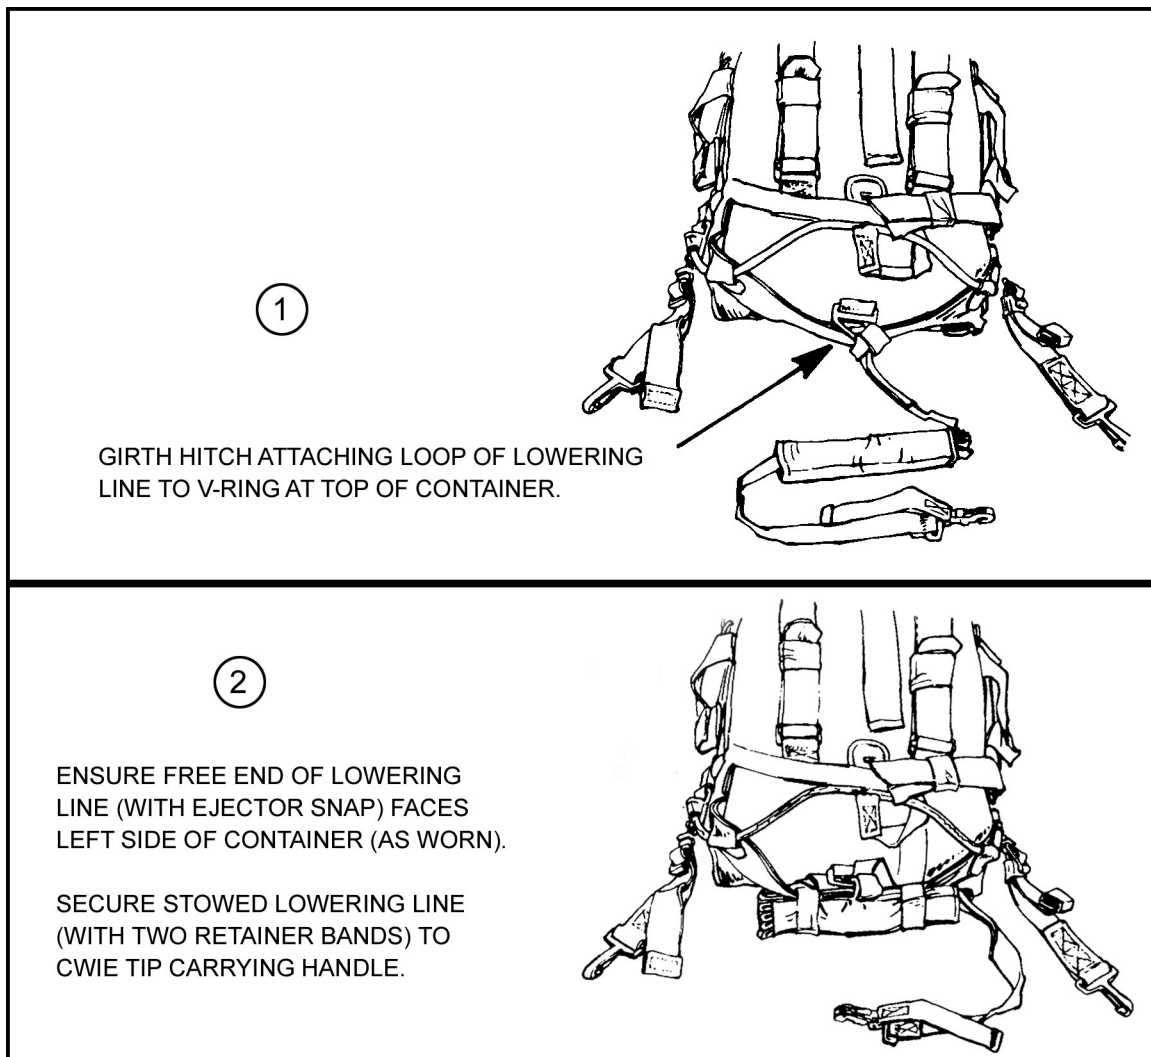

Figure 12-28. HPT lowering line attached to CWIE.
- g. The looped end of the lowering line is threaded through the V-ring and under the carrying handle on top of the harness assembly. The entire length of the lowering line is pulled back through the loop and then pulled tight (Figure 12-28).